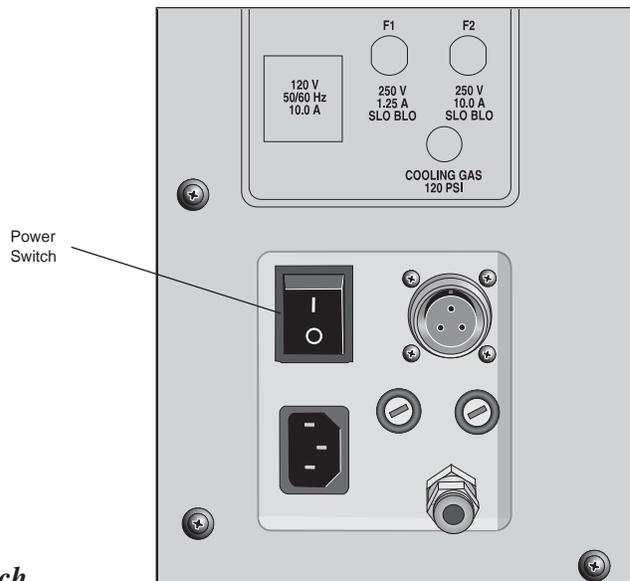

Figure 2.10
1. Make sure the TGA POWER switch, located on the back of the instrument, (Figure 2.10) is in the OFF position.